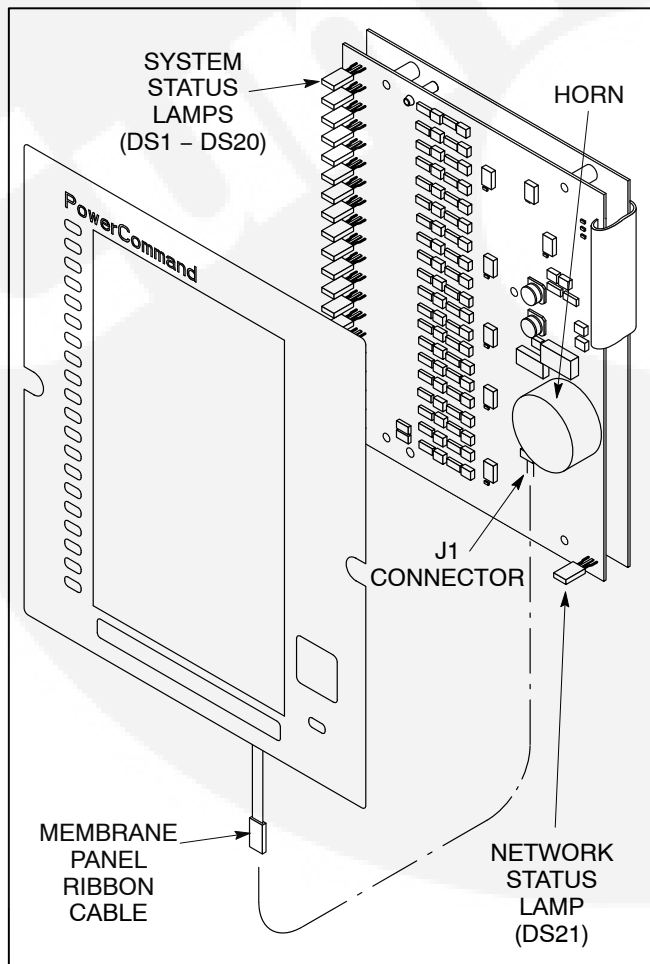

FIGURE 8. J1 CONNECTION
2. Verify that the J1 connector (membrane panel ribbon cable to PCB assembly – located on the back of the board) is secure (see Figure 8). Press the Silence/Lamp Test pad.